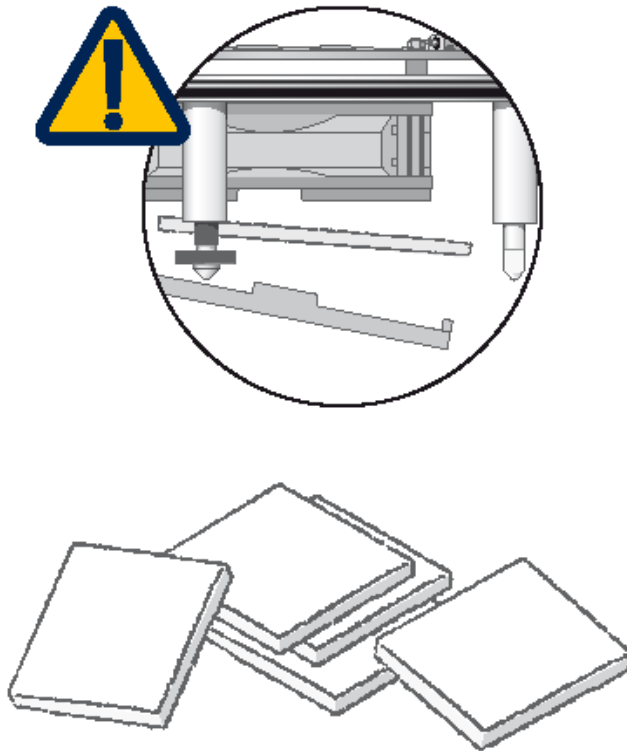

FIGURE A-5. CVF3 filter replacement
3. Unclip the CVF3's filter cover and check the filters (see FIGURE A-5).